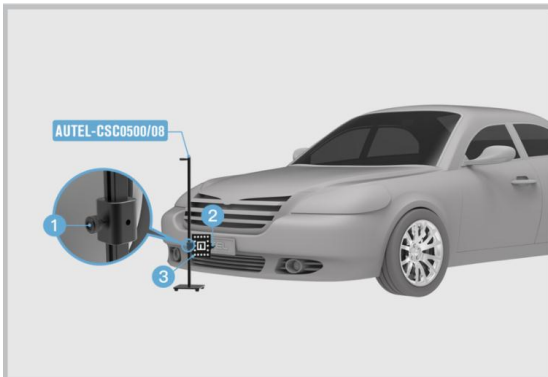

Figure 3-6 Place the Distance Measuring Target
1. As shown in Figure 3-6, place the alignment aid AUTEL-CSC0500/08 in front of the vehicle. Loosen the bolt (①) to adjust the height of the target so that it is roughly at